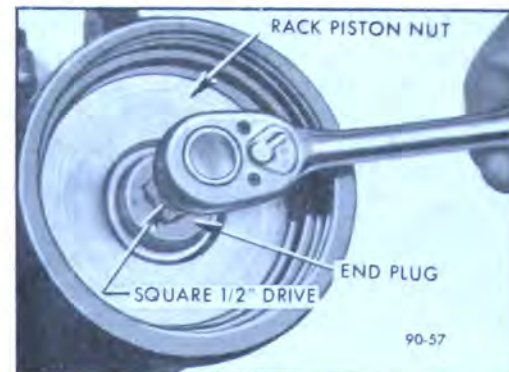

Figure 90-53 Removing Rack-Piston Nut End Plug
6. Remove rack-piston nut end plug with a 1/2 square drive. See Figure 90-53.